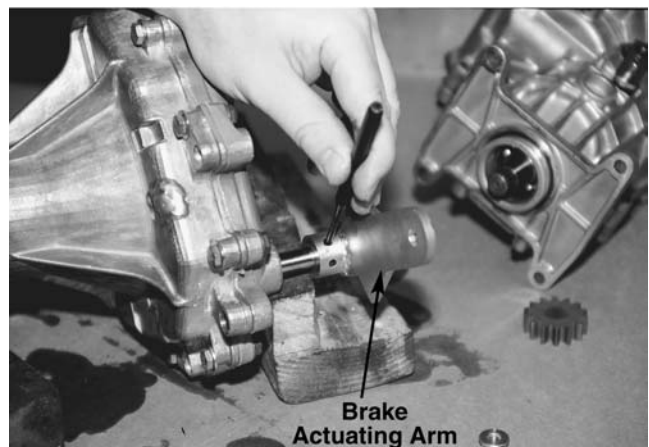

Figure 10-45.
5. Remove the brake actuating arm from the shaft by supporting the shaft and housing with some blocks of wood so that you do not damage the shaft and components during disassembly. See Figure 10-45.